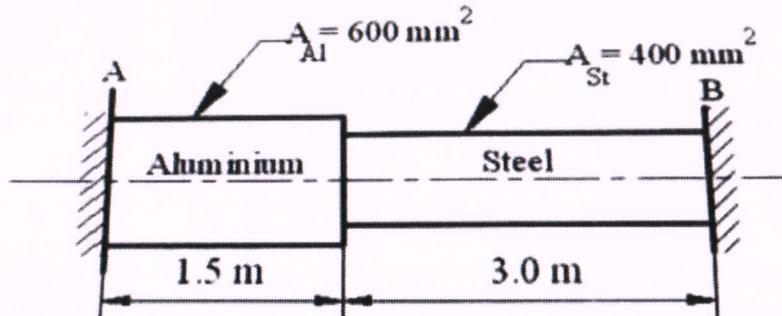

Fig.1
- 1 a) The composite bar shown in Fig.1 is rigidly fixed at the ends A and B. Determine the (10) reaction developed at the ends when the temperature is raised by 18°C . Given $E_{Al} = 70 \text{ GPa}$, $E_S = 200 \text{ GPa}$, $\alpha_{Al} = 11 \times 10^{-6}/^\circ\text{C}$ and $\alpha_S = 12 \times 10^{-6}/^\circ\text{C}$